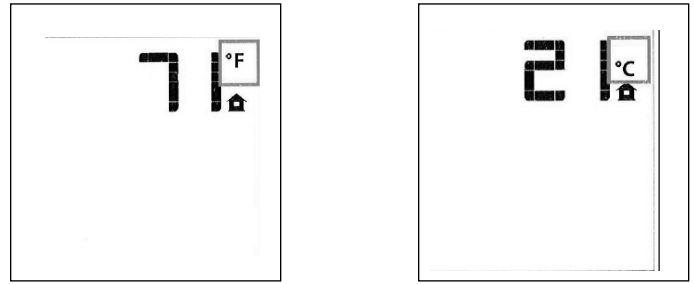

Figure 65. Room temperature readings
- With the transmitter in the OFF position, press the Thermostat Key and the Mode Key at the same time. The display screen will show the current room temperature cycling between Fahrenheit and Celsius indicators each time the keys are pressed simultaneously. See fig. 65.